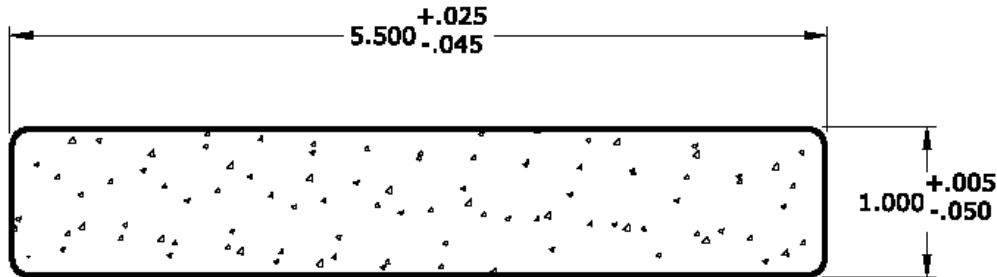

FIGURE 1 – ENDECK® STRAIGHT EDGE DECK BOARD
**3.1** *Endeck®* deck boards are a solid rectangular cross-section with nominal dimensions of 1.0-inch-thick by 5.5 inches wide and are produced with either a straight edge or grooved edge profile. See Figures 1 and 2.